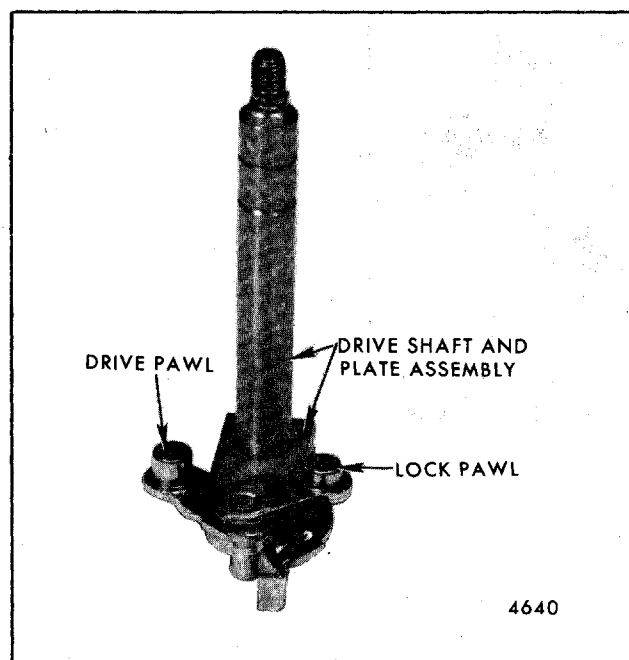

Fig. 2-49-Lock Pawl
2. Assemble lock pawl over drive pawl as shown in Figure 2-49.